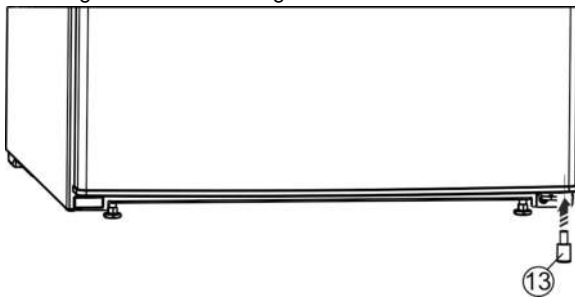

Fig. 24 *
- Insert the spacer Fig. 24 (13) back under the right-hand side of the door, as it is important for the stability of the appliance.*